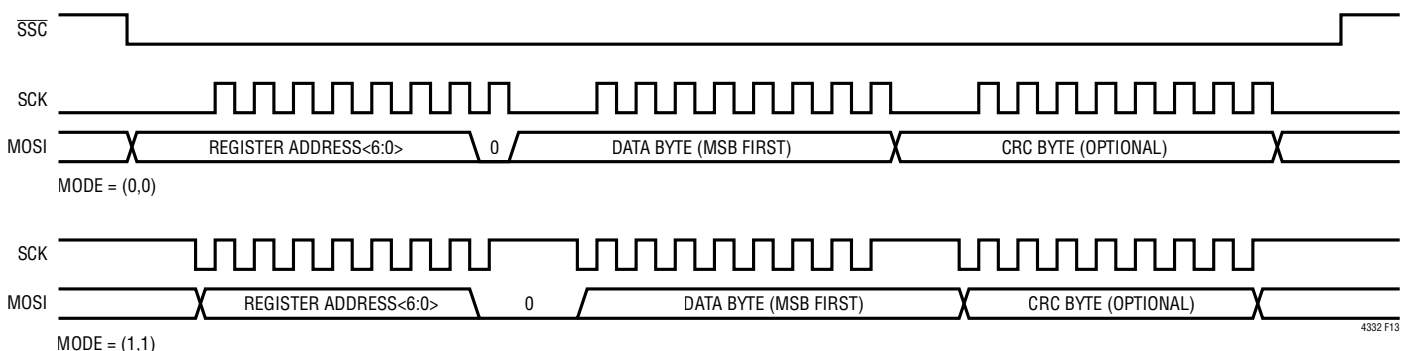
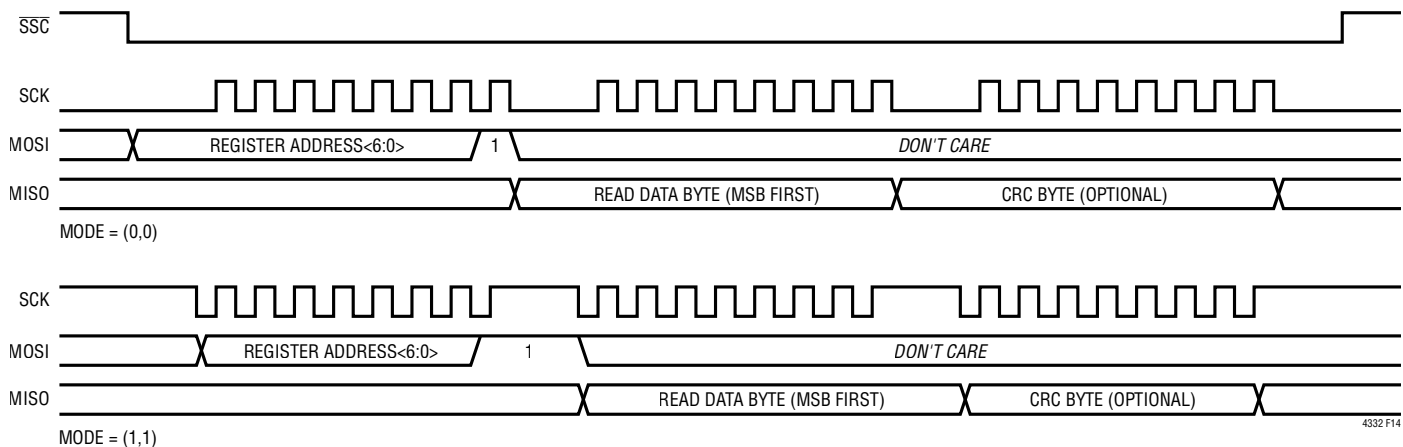

Figure 13. Control Interface Write Transfer
Figure 14. Control Interface Read Transfer
The LTC4332 provides a separate slave select pin,  $\overline{SSC}$ , that allows a user to access the internal control interface for configuration and monitoring. The interface supports SPI modes (0,0) and (1,1) only. Read and write accesses are shown in Figure 13 and Figure 14. The bit order is MSB first. The first byte includes the register address in bits <7-1> and a read(1)/write(0) bit in the LSB. Only single data byte accesses per transfer are supported.